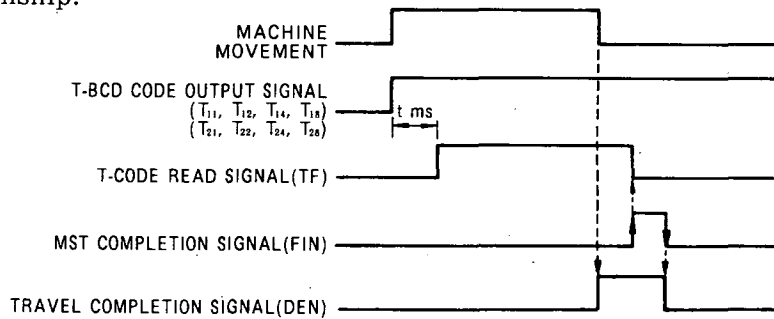

Fig. 4.32
However, the T-BCD code output signal (T_{11} to T_{28}) is not cleared when an MT completion signal is received, but is retained until a new T-command is received. This means that T-code signals are modal, and remain effective after being used until a subsequent T-command is given. Fig. 4.32 shows the time chart covering the above time relationship.
- (6) Where several T codes are commanded in the same block, a final command among commanded T codes is effective. Fig. 4.32 shows the time chart covering the above time relationship.